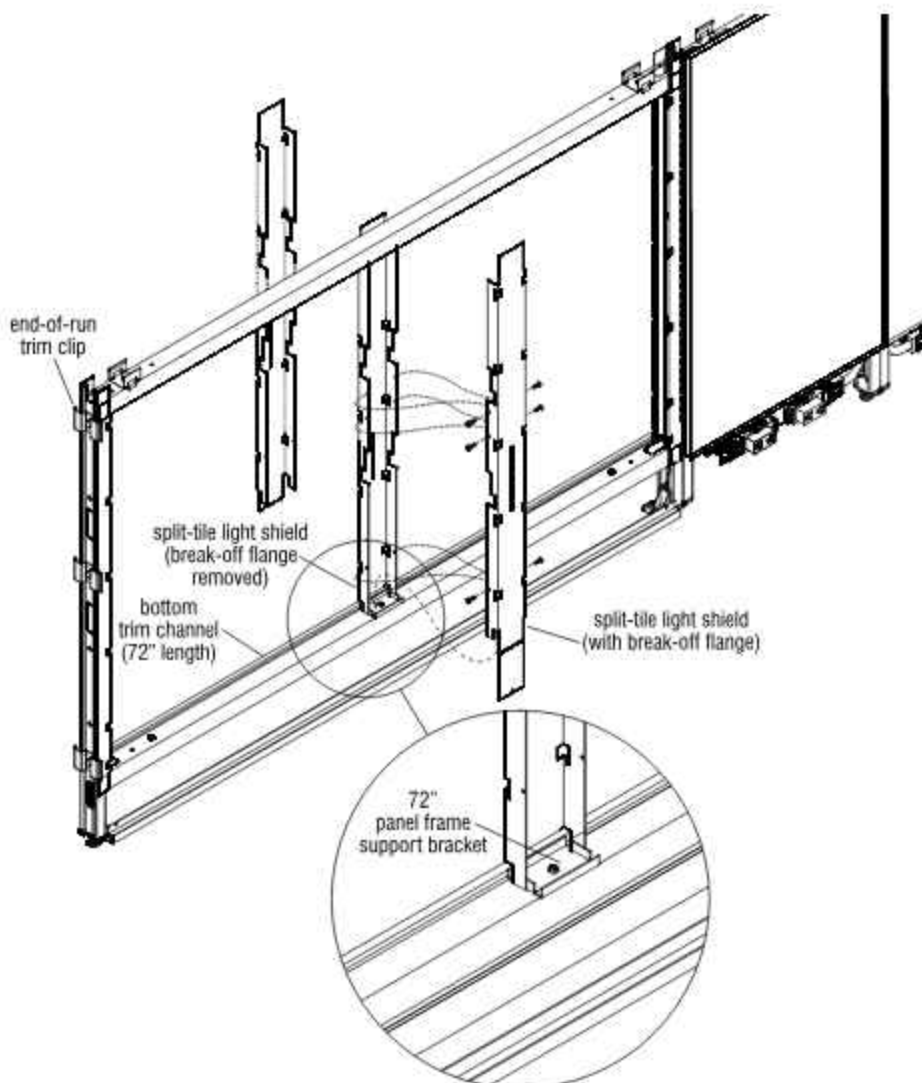

Figure 7 - 72" Panel Frame, Split-Tile Light Shield
- To install the light shield on the standard or lifted base panel tile side, center and set the bottom edge of the light shield into the outside, top of the bottom trim channel as illustrated. Use the panel frame support bracket to align the light shield directly on center. Make certain that the light shield is positioned to the outside of the trim, such that the notches in the bottom of the light shield capture the top of the bottom trim channel. To install the light shield on the tile-to-floor panel side, set the bottom edge of the light shield onto the top of the bottom horizontal rail. Use the panel frame support bracket to align directly on center with the other light shield. Align the screw holes of both light shields by overlapping the sides and attach using six #8-18 x 1/2" phillips pan head screws (Figure 7).